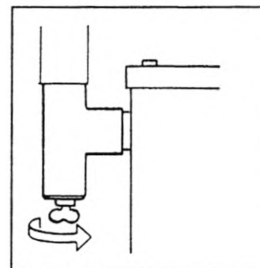

Figure 5
- Install a water trap for boilers bigger than B17, to trap possible water caused by condensation (figure 5).